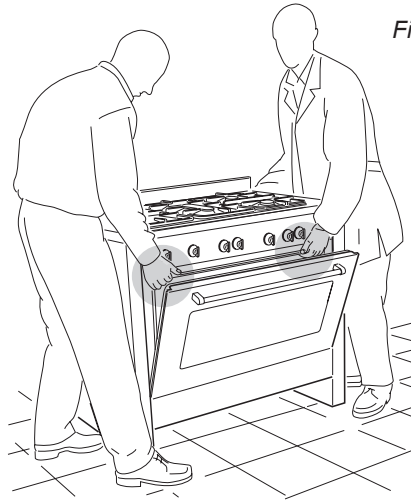

Fig. 1.7
**WARNING:** When raising cooker to upright position always ensure two people carry out this manoeuvre to prevent damage to the adjustable feet (fig. 1.7).
When moving cooker to its final position **DO NOT DRAG** (fig. 1.9). Lift feet clear of floor (fig. 1.7).